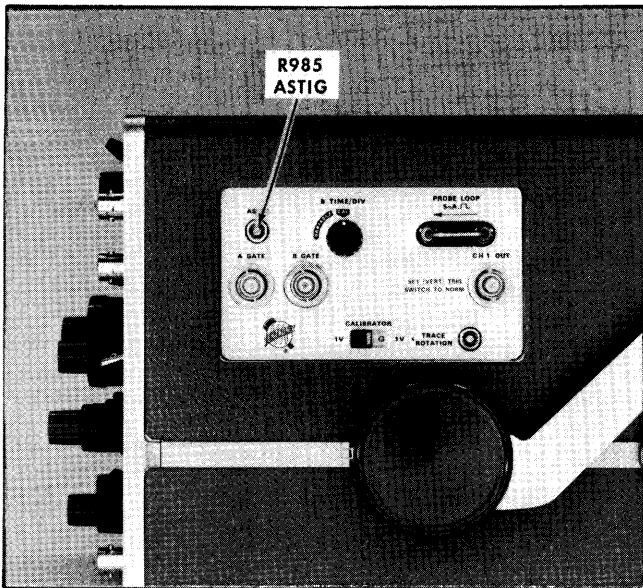

Fig. 5-7. Location of ASTIG adjustment (side panel).
- f. ADJUST—FOCUS control and ASTIG adjustment, R985 (see Fig. 5-7), for best definition of the markers.
9. Check/Adjust Y Axis Alignment ①